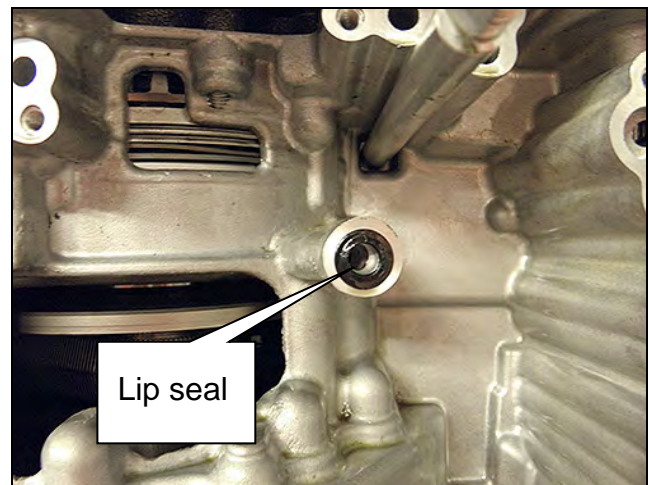

Figure 26
2. Install a new lip seal. Do **NOT** reuse the old lip seal (Figure 26).